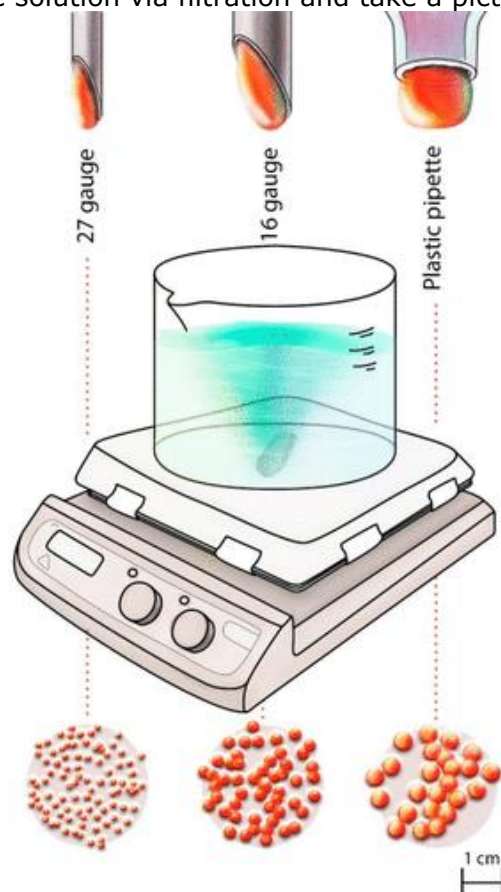

Figure 1. Schematic representation of the alginate bead synthesis using droppers various opening sizes (27- and 16 gauge syringe needles and a pipet tip).
**Figure 1.** Swelling of a drug delivery hydrogel in response to various chemical and physical stimuli. Red and yellow lines indicate the interwoven matrix structure of a hydrogel, with the yellow dots representing drug molecules. Source: *Pharmaceutics* **2018**, *10*, 71.
Students will learn how to regulate the size of alginate beads by varying dropper diameter. Students produce alginate beads by extrusion dripping of alginate solution (0.5 wt %) into a curing solution of  $\text{CaCl}_2$  (1 wt %) using a plastic pipet and syringes with 16- and 27-gauge needles (Figure 1). Erythrosine B, a red coloring dye, was added to the polymer solution at a concentration of 1 mg/mL for improved visualization and precise determination of the size of alginate beads. When the polymer drop enters the  $\text{CaCl}_2$  solution, positively charged  $\text{Ca}^{2+}$  ions interact with the negatively charged carboxylic groups ( $\text{COO}^-$ ) of alginic acid, resulting in ionic cross-linking of the alginate polymer. Once cross-linked, calcium-cross-linked hydrogels have been proven to have no or minimal deleterious effect on cell viability and proliferation. Students retrieve the alginate beads from the solution via filtration and take a picture of the beads adjacent to a ruler.